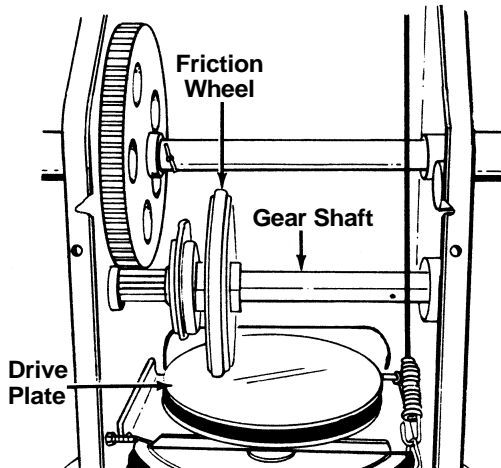

Figure 14
- With the traction control engaged, the friction wheel must contact the drive plate. See Figure 14.
Lubricate the gear shaft with 6-in-1 grease (part number 737-0170) at least once a season, or after every 25 hours of operation. Refer to Figure 14.
operation, remove rear cover. Lubricate any chains, sprockets, gears, bearings, shafts, and shifting mechanism at least once a season. Use engine oil or a spray lubricant. Avoid getting oil on rubber friction wheel and aluminum drive plate. Refer to Figure 14.